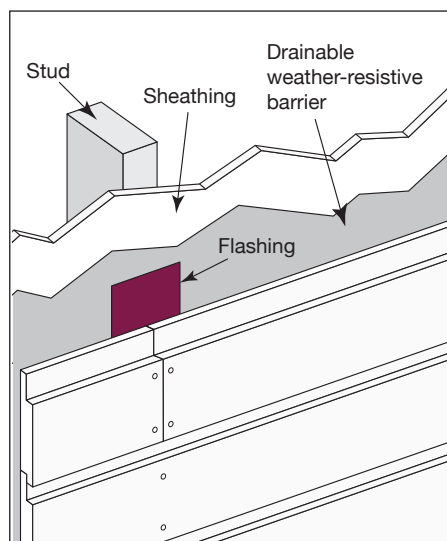

Fig. 3b
- Flashing behind butt joints provides an extra level of protection from water infiltration. Appropriate color-matched aluminum flashing or 30 lb. felt strips can be used behind all butt joints to reduce water infiltration (**Fig. 3b**).